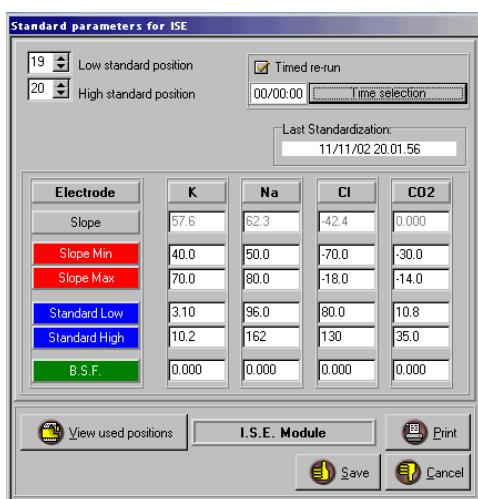

Figure 4
INSERTING STANDARDS: Go to the Global list or the Current Tray list. Select ISE, and then click Standards to display the Standard parameters for ISE (Figure 4). Standards programming (automatic or on request) follows the same procedure of Clinical Chemistry (Chapter C, paragraph 1.5. Calibrations). For system calibration, two known standards (Low and High) are required.
d) Verify that programmed values for the standards (high level/low level) correspond to the used lot. Programming is performed as shown in **Figure 4**, where the values for two standards must be entered for the calculation of slope during the calibration.